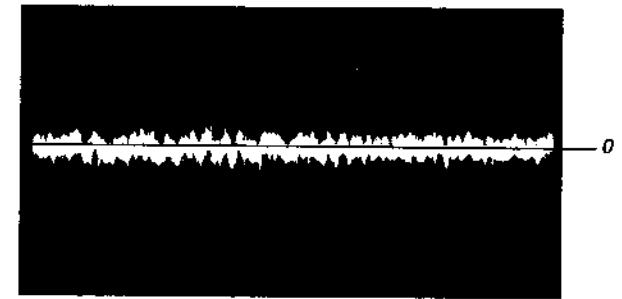

Fig. 8
5. Turn RV502 slowly counterclockwise (tracking gain rises) until the fundamental wave disappears (no large waves) as in Figure 8.